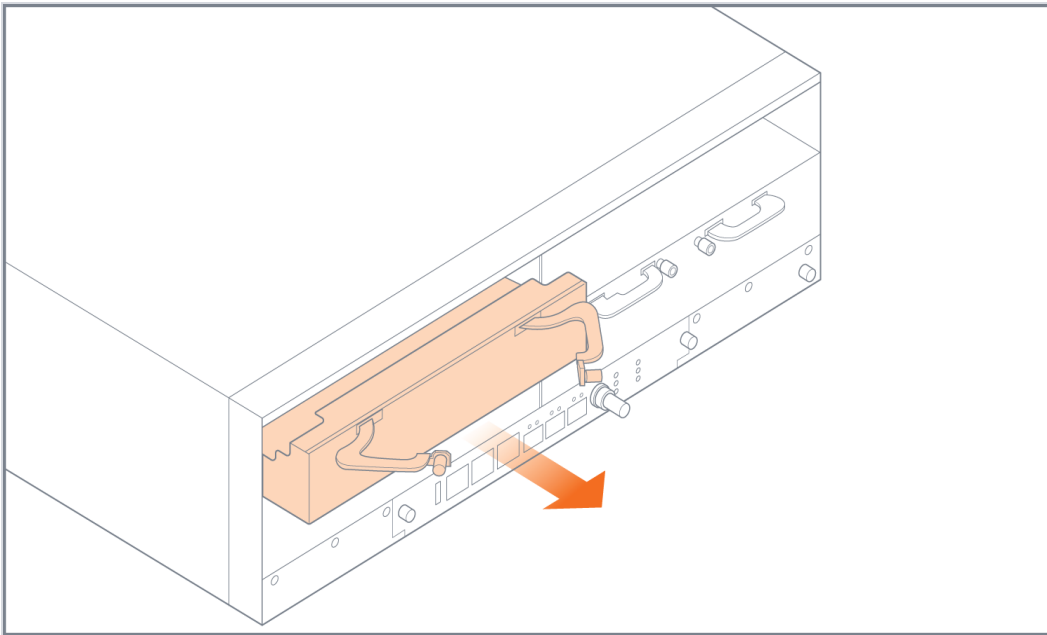

Figure 10: Filler Panel Removal
6. Remove a filler panel as shown in Figure 10: Filler Panel Removal on page 66.